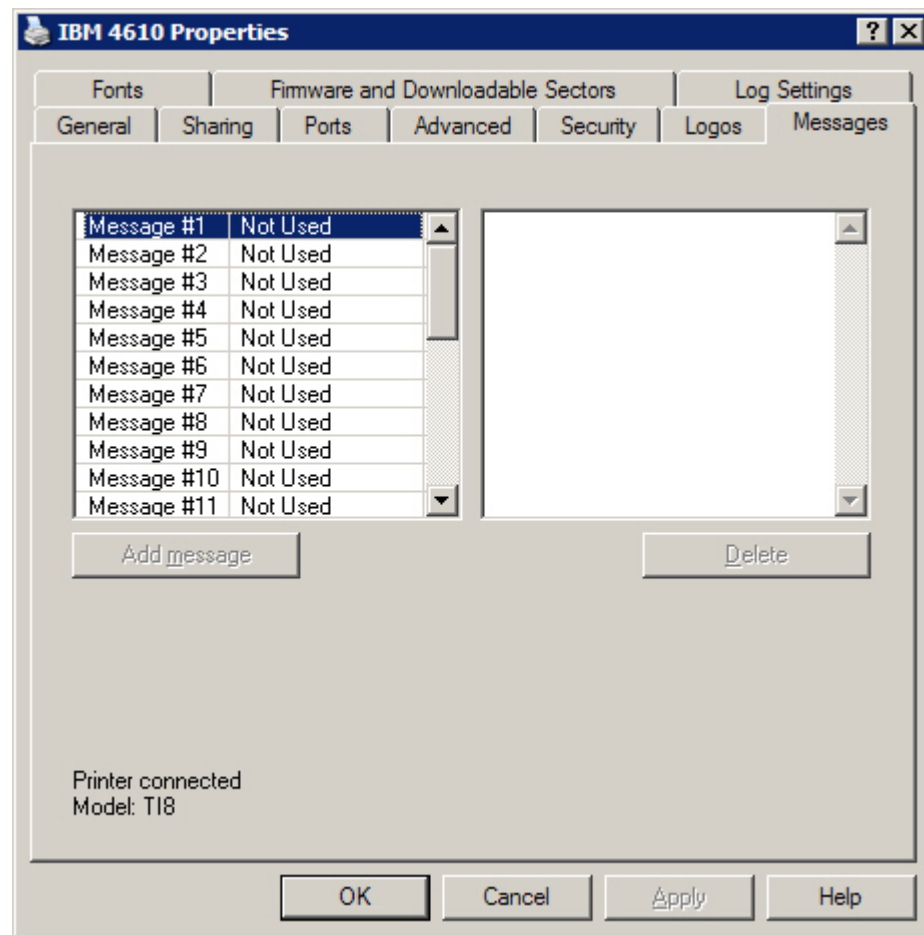

Figure 19. Creating a message
3. Click the **Messages** tab (see Figure 19).